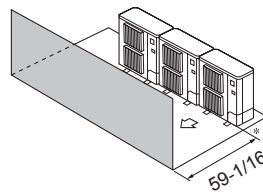

Fig. 3-13
③ Obstacles at front only (Fig. 3-13)